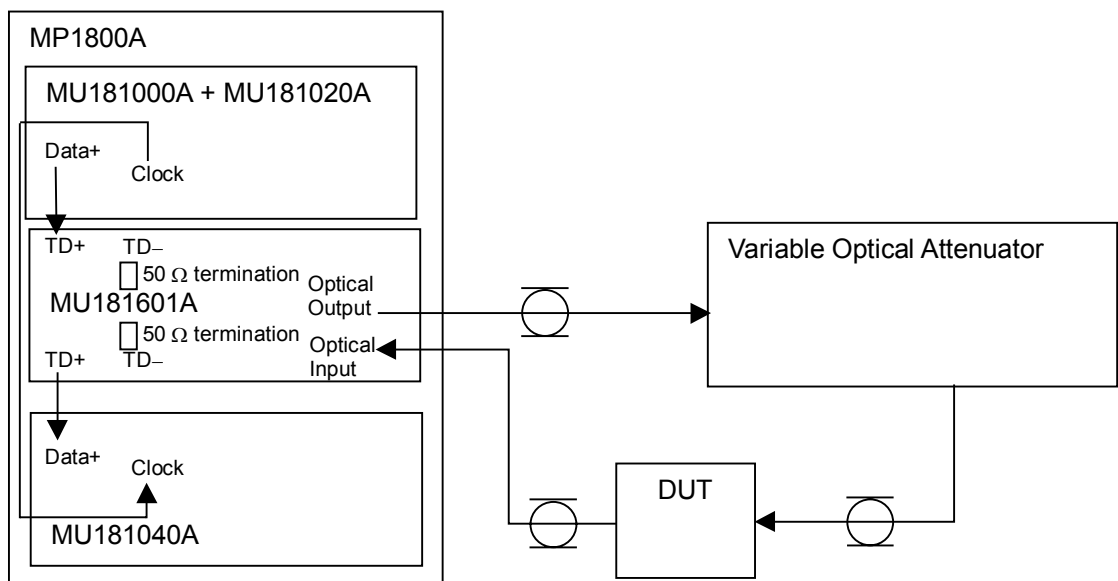

Fig. 5.2.1-1 Connection diagram
1. Connect the Optical Input connector of the DUT (device under test) and the Optical Output connector of the MU181601A via an optical attenuator, and connect the O/E output connector of the DUT and the Data Input connector of the MU181040A (see Fig. 5.2.1-1).